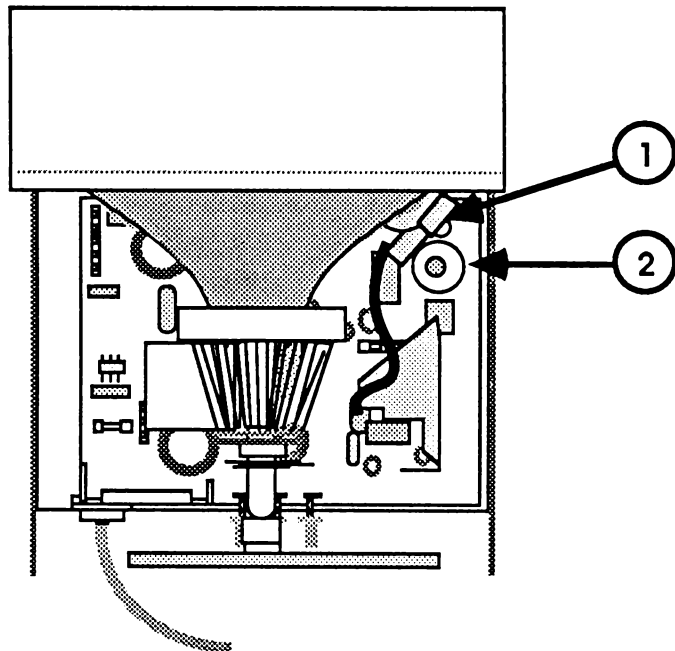

FIGURE 4
4. Horizontal Width: Measure the width of the active portion of the display. Adjust H-WIDTH L552 (Figure 4, #2) for about 7 7/8 inches.
WARNING: Avoid contact with the anode on the CRT (Figure 4, #1) during this adjustment or personal injury due to electrical shock could result.